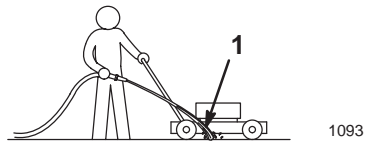

Figure 17
4. Hold the running water hose at handle level and direct the water flow on the ground just in front of the **rear right** wheel (Fig. 17).